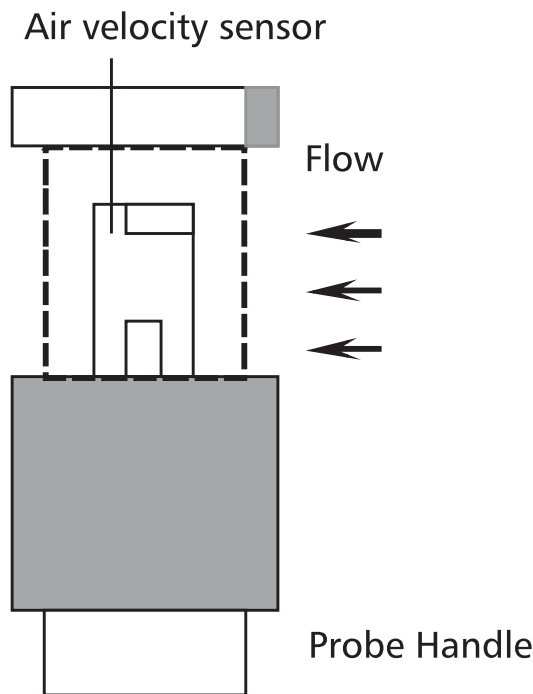
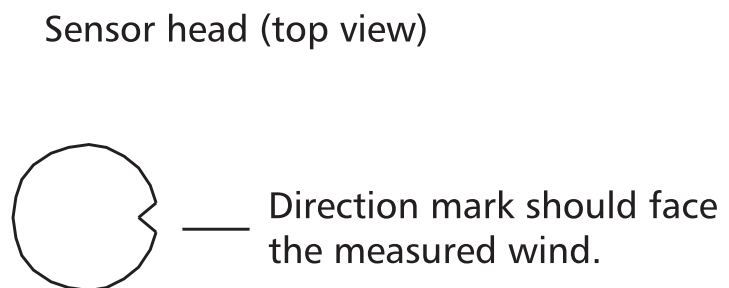

Fig 4
Fig 5
- 5.Slide the sensor cover to the down position, let the air velocity sensor to contact the air, refer Fig.2. Extent the telescope probe to the convenient length, refer Fig.4.
There is mark on the top of the "Sensor Head", When make the measurement, then this mark should against the measured wind, refer Fig. 4, Fig5. When sensor head face against the measurement air, then sensor head face against the measurement air, then the upper display will show the air velocity value. The lower display will show the temperature value.